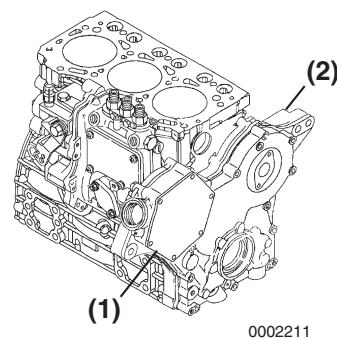

Figure 4-3-10
13. Remove the fuel injection pump drive gear access cover (**Figure 4-3-10, (1)**) from the gear case cover (**Figure 4-3-10, (2)**).